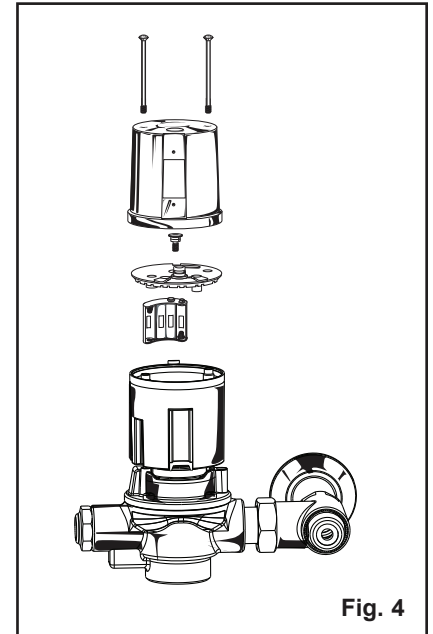

Fig. 4
1. Remove the two cover screws and lift off CP metal cover (060330A, item #2). Remove the thumbscrew and plastic cover from top of the electronics housing. (Refer to Fig. 4)